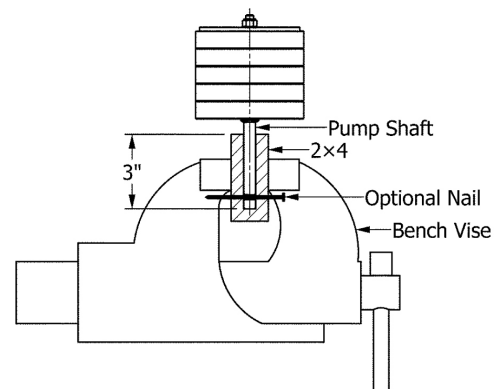

Figure 4 - Inspection
**NOTE:** To facilitate overhaul, a handy holding device can be made easily. Take a short piece of 2x4 lumber and on the narrow side, drill a 1/2" diameter blind hole 3" deep. Place block into bench vice with hole facing up to receive pump shaft after step 5 (see Figure 4).